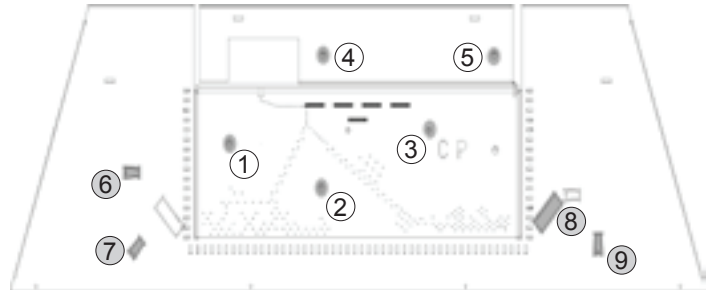

Figure 2
2. Remove the burner cover using a screwdriver. Push up pins 6, 7, 8 and 9 as shown in **Figure 2**.
**STEP 1.** Push up pins 6, 7, 8 and 9 as shown **Figure 2**. Replace burner cover inside fireplace.